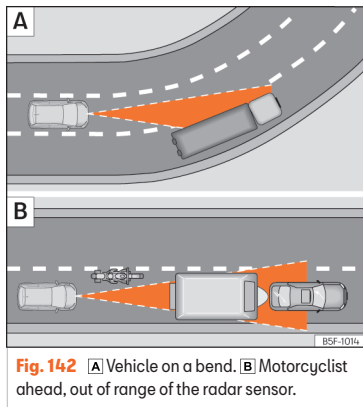

Fig. 142 **A** Vehicle on a bend. **B** Motorcyclist ahead, out of range of the radar sensor.
The ACC may not detect the vehicle in front on a curve, or may regulate the distance from vehicles in other lanes »» Fig. 142 [A].
- Vehicles that are not aligned while driving or that are outside the sensor's detection area, such as motorcycles »» Fig. 142 [B].